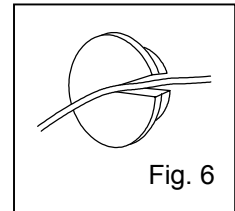

Fig. 6
10. Make a small cut on the rubber caps for capillary to pass. See Fig. 6